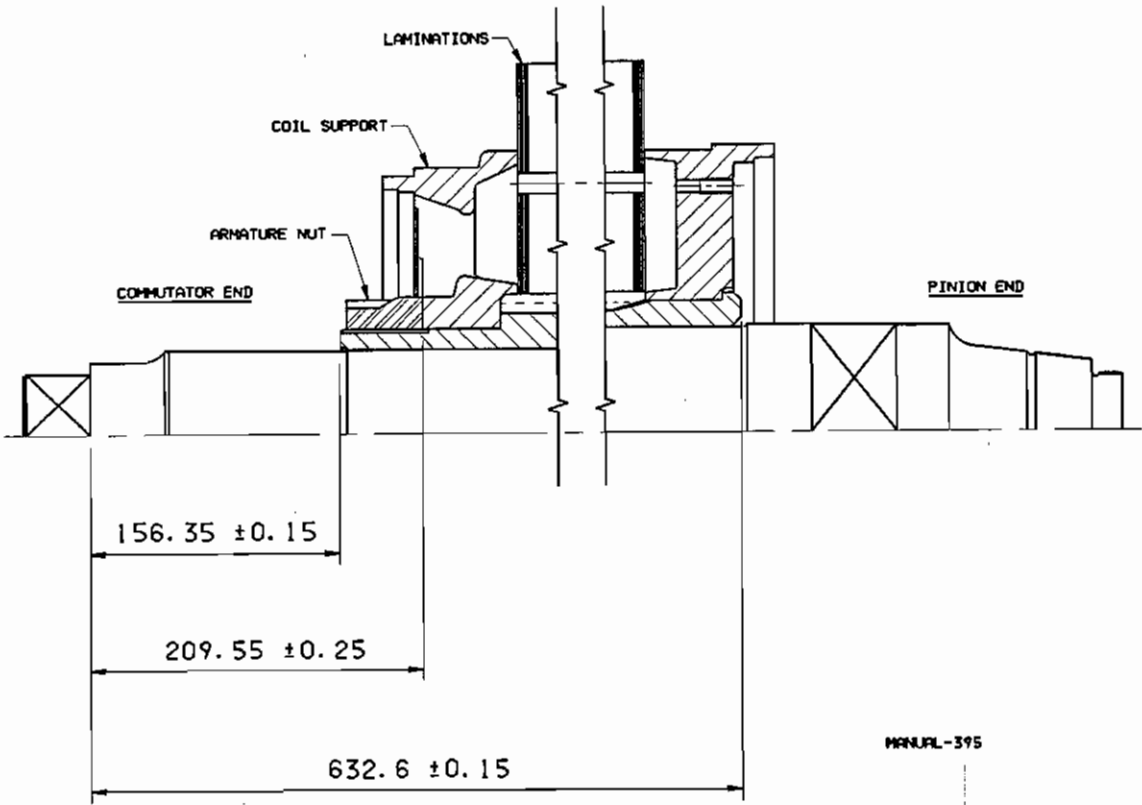

Fig. 17 - Armature Core Position on Shaft
- a. Check the 209.55 ± 0.25 mm dimension from the step on the commutator end of the shaft to the inner machined surface of the coil support, as shown in Fig. 17.
- b. Check the 156.35 ± 0.15 mm dimension from the step on the commutator end of the shaft to the commutator end of the hub, as shown in Fig. 17.
- c. Check the 632.6 ± 0.15 mm dimension from the step on the commutator end of the shaft to the pinion end of the hub, as shown in Fig. 17.